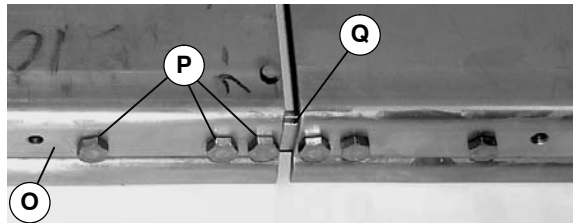

Figure 8
5. Install conveyor frame extension (O of Figure 8) on frame connecting bar (Q) with three screws (P). Install three screws (P) on opposite side. Tighten all screws to 92 in-lb (10.4 Nm).